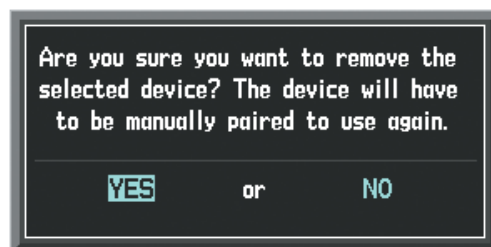

Figure 8-127 Device Removal Confirmation
The mobile device must be ‘paired’ with the Perspective® system in order to use the various functions. Pairing is accomplished by first placing the Perspective® system in pairing mode by displaying the Bluetooth Management Page as shown in Figure 8-127. Note the ‘PAIRING MODE’ field shows ‘ENABLED’. The system is ‘discoverable’ whenever this page is displayed. The pairing operation is completed from the mobile device and Garmin Pilot, or other application. See the device Bluetooth pairing instructions and the connection instructions in the application.
- 3) Press the **REMOVE** Softkey. A confirmation screen is displayed as seen in Figure 8-127.